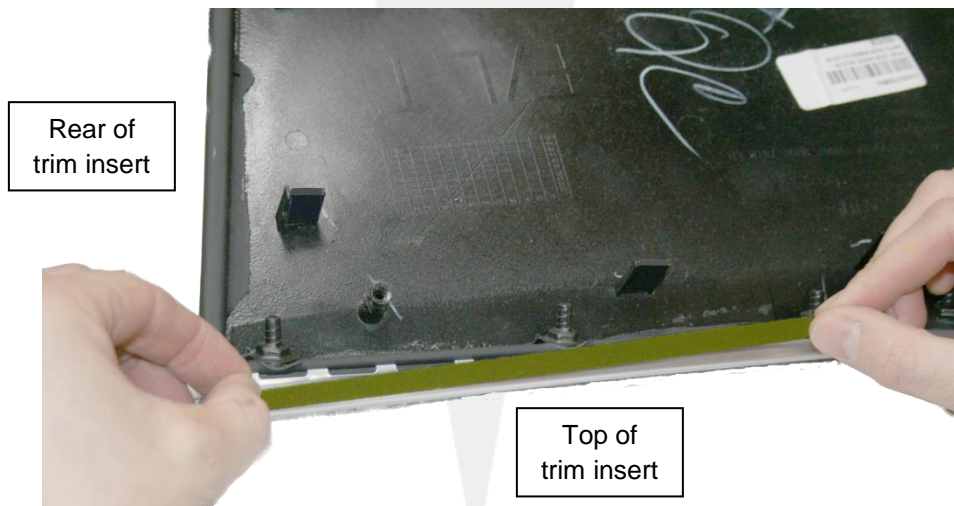

Figure 6 (Felt tape highlighted)
9. Apply a 210 mm strip of felt tape to the top, rear outboard side of the metallic trim on the door trim insert. Place the felt tape in a strip going towards the front of the door trim insert (Figure 6).